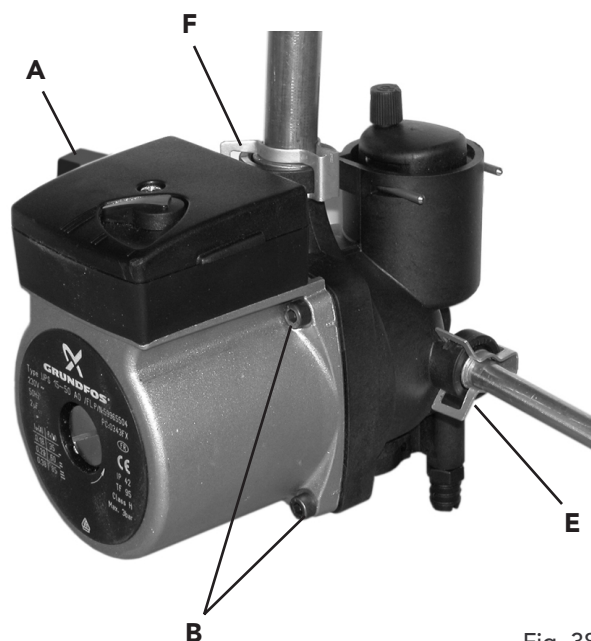

Fig. 38
7.13 Pump (fig. 38)
7.15 Replacement of pump body (fig. 38)